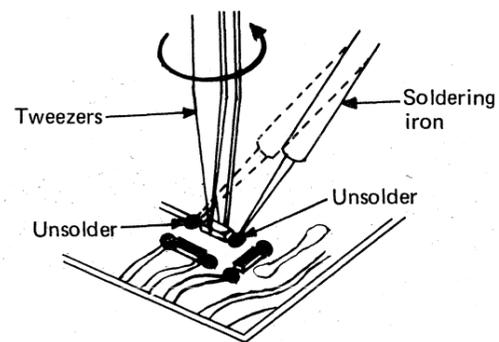

Fig. 8
2. Remove chip with tweezers by rotating it while removing solder as shown in fig. 8.